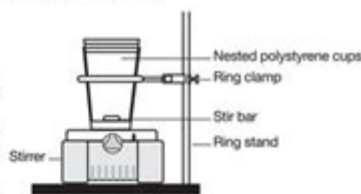

Figure 1.
- Place a magnetic stirrer below the calorimeter, then lower the ring clamp until the bottom of the cup just sits on the surface of the magnetic stirrer (see Figure 1).